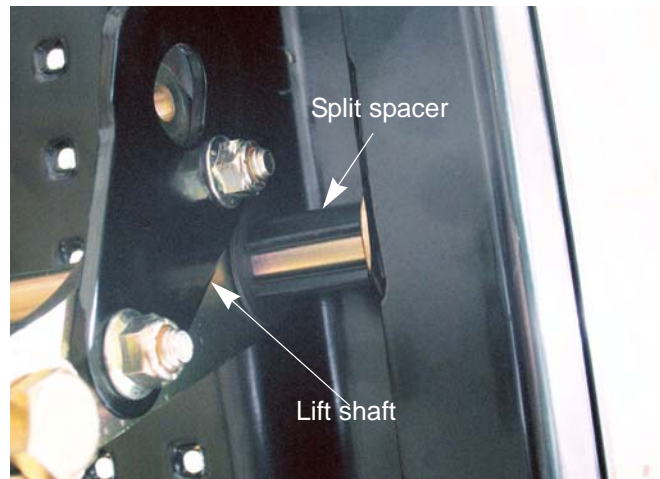

Figure 8.32
7. Remove both of the split spacers from the lift shaft to be removed. See Figure 8.32.